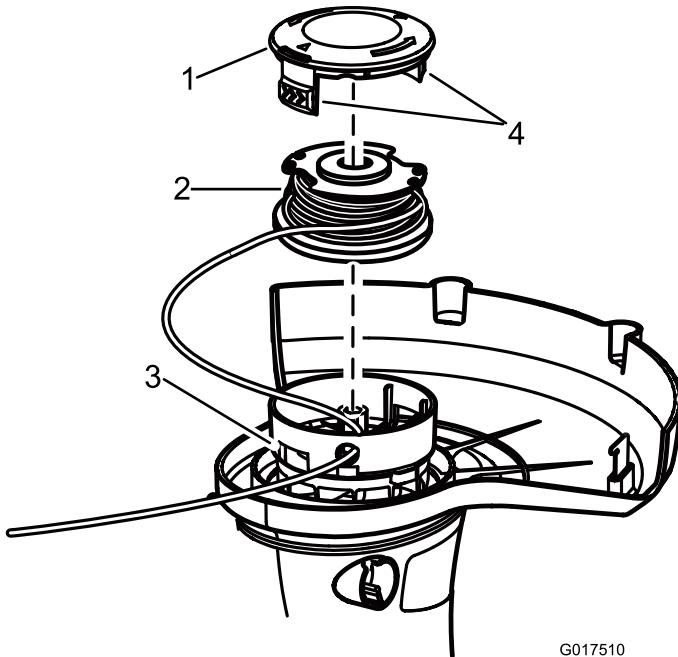

Figure 13
2. Push in the tabs on the side of the spool retainer (Figure 13).
2. Remove the spool. See Replacing the Spool (Figure 13).